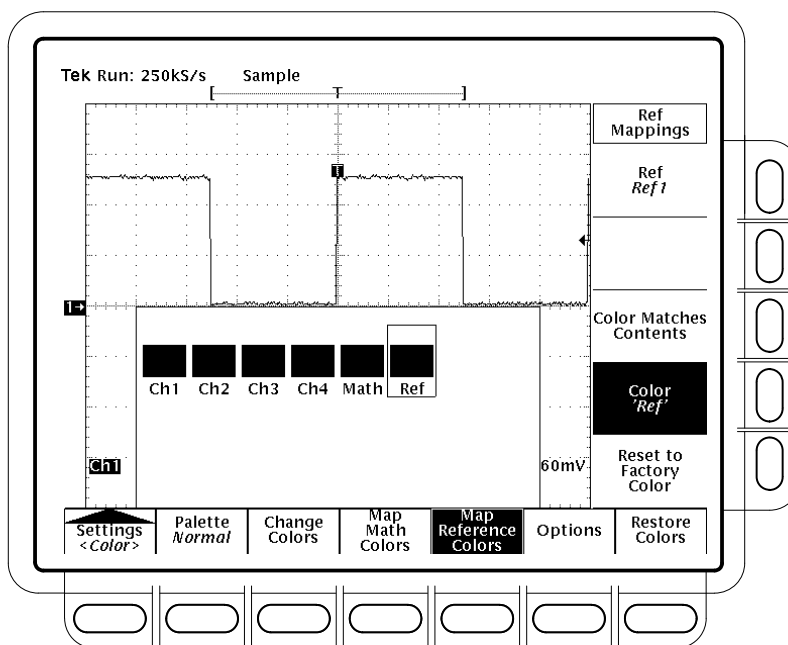

Figure 3-21: Display Menu — Map Reference Colors
- Press **Map Reference** in the main menu. (See Figure 3-21.)